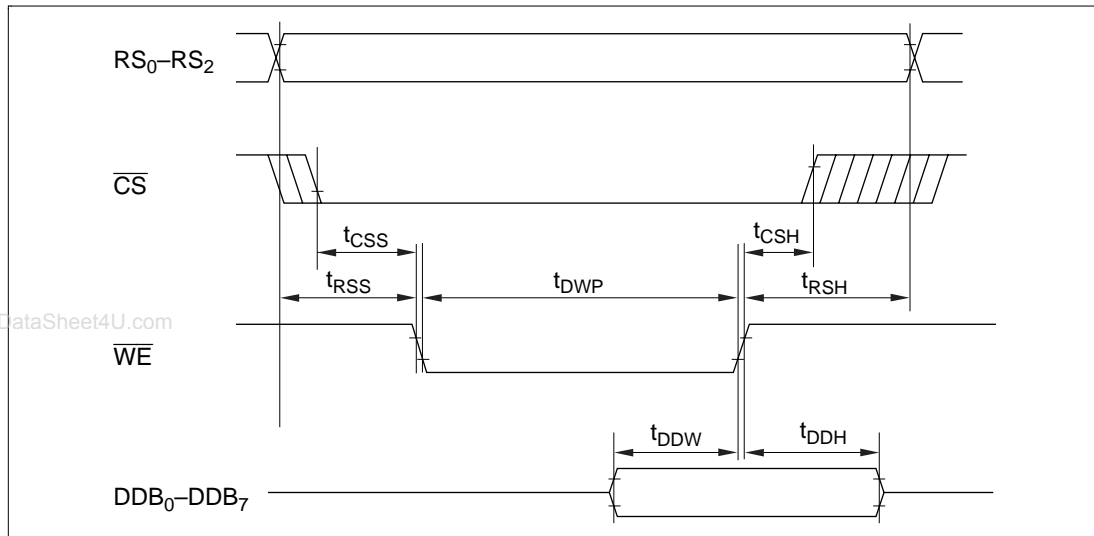

Figure 19.19 DPRAM Write Timing
19.3.8 DPRAM Timing	Figure 19.19 to 19.24